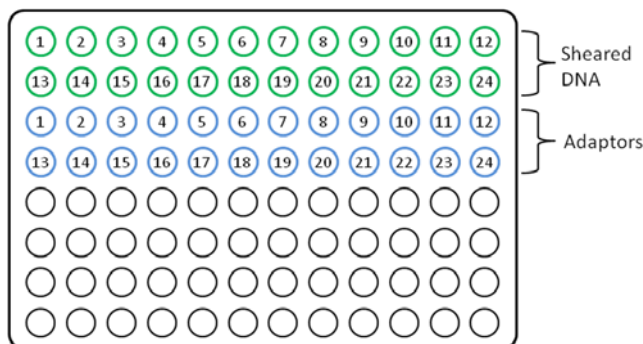

Figure 2 Eppendorf 96/500-µL plate with sheared DNA and Adaptors
- Transfer 110 µL for each sample to Eppendorf 96/500-µL DNA LoBind plate as shown in Figure 2.